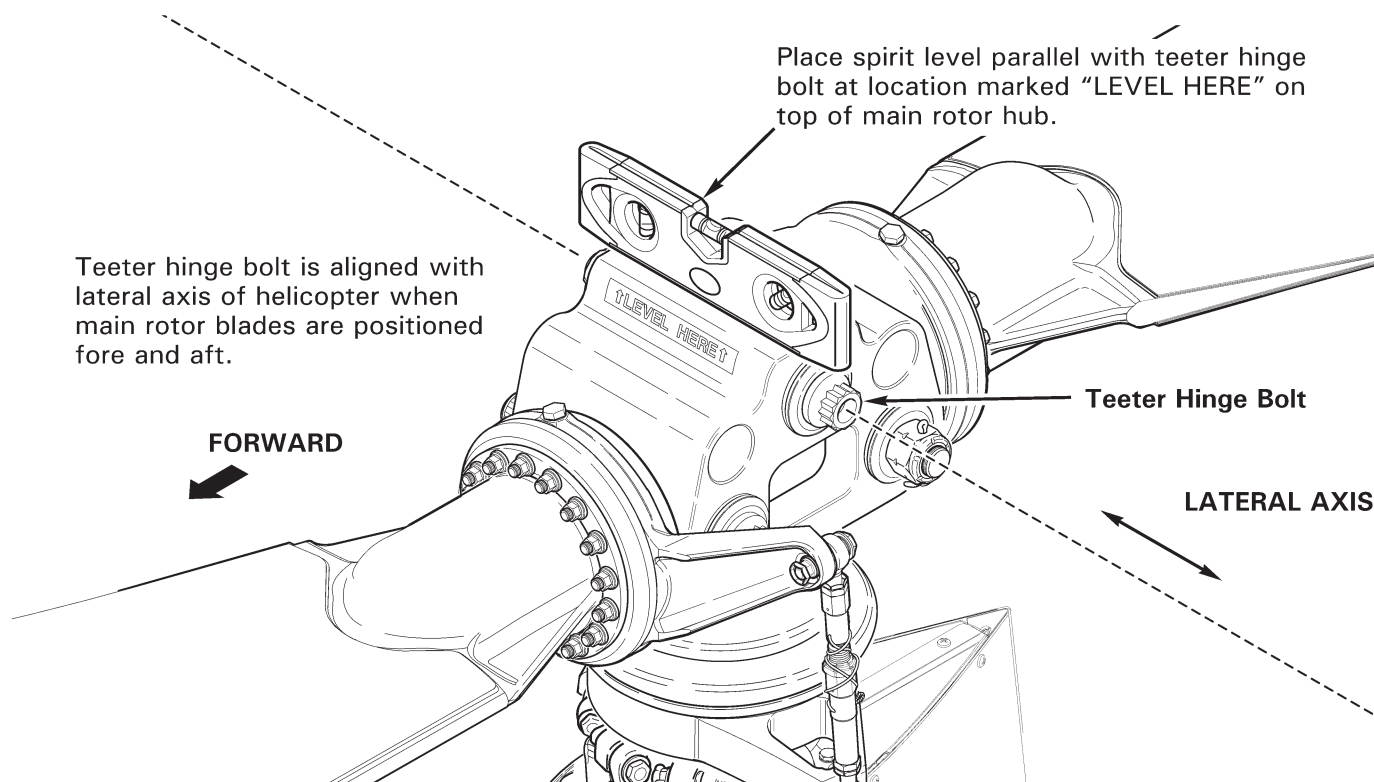

FIGURE 8-2 LEVELING FOR RIGGING
1. Refer to Figure 8-2. Place cyclic stick in vertical position and apply cyclic friction. Position main rotor blades approximately fore and aft and apply rotor brake. (Teeter hinge bolt is aligned with lateral axis of helicopter.)